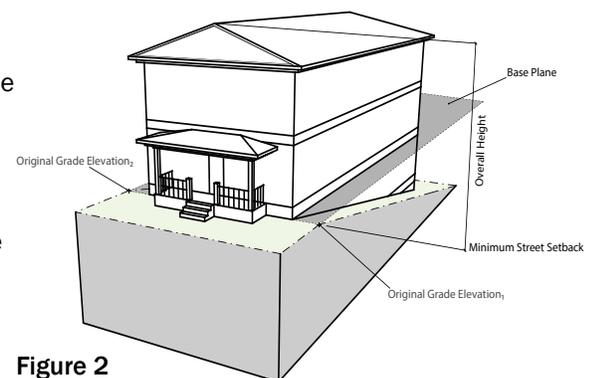

Figure 2
- The Front Base Plane has now been set and all vertical measurements of height in feet and stories for buildings or portions of buildings located in the front 65% (80%) of the property will start from the Front Base Plane elevation. See Figure 2. All proposed new construction cannot exceed these maximum heights, unless an exception is expressly allowed by the zoning code.
- C. On your site plan, starting at the rear property line and at the Rear Base Plane elevation (Step 2.B), draw the Rear Base Plane as a horizontal plane extending toward the front of the property to the boundary line indicating the rear 35% (20%) of the total lot depth (Step 1.B). See Figure 2.
- D. The Rear Base Plane has now been set and all vertical measurements of height in feet and stories for buildings or portions of buildings located in the rear 35% (20%) of the property will start from the Rear Base Plane elevation. See Figure 2. All proposed new construction cannot exceed these maximum heights, unless an exception is expressly allowed by the zoning code.